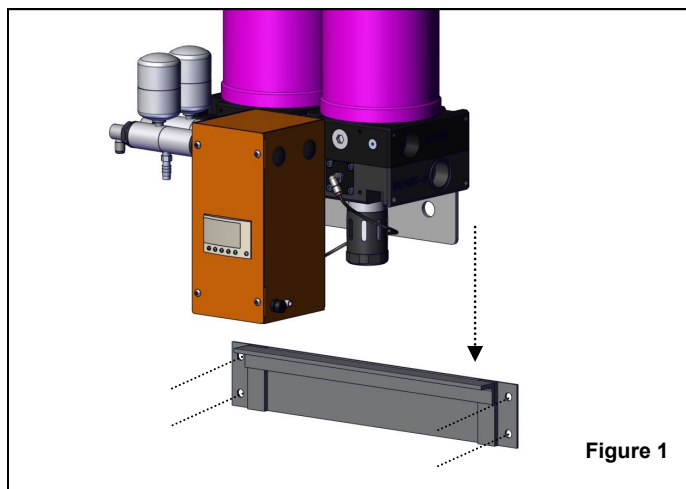

Figure 1
2. Using the appropriate hardware (not included), mount dryer bracket to wall. *Figure 1*
3. Once the wall bracket has been properly secured to the wall, place the dryer mounting rail into the slot(s) of the wall bracket. *Figure 1*